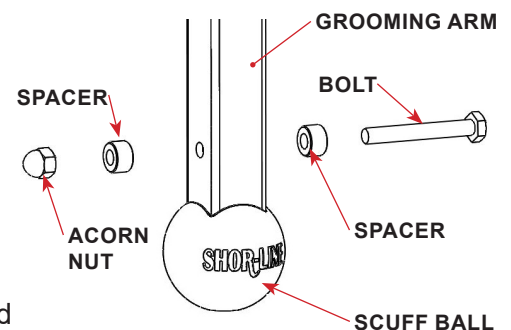

FIGURE 2.7 - Lower Slide Stop Pin
To install the fixed grooming arm into the arm height bracket the lower slide stop must be removed from the grooming arm. See FIGURE 2.7
STEP 8: Slide one of the spacers onto the lower slide bolt and insert through the lower hole on the arm. See FIGURE 2.7